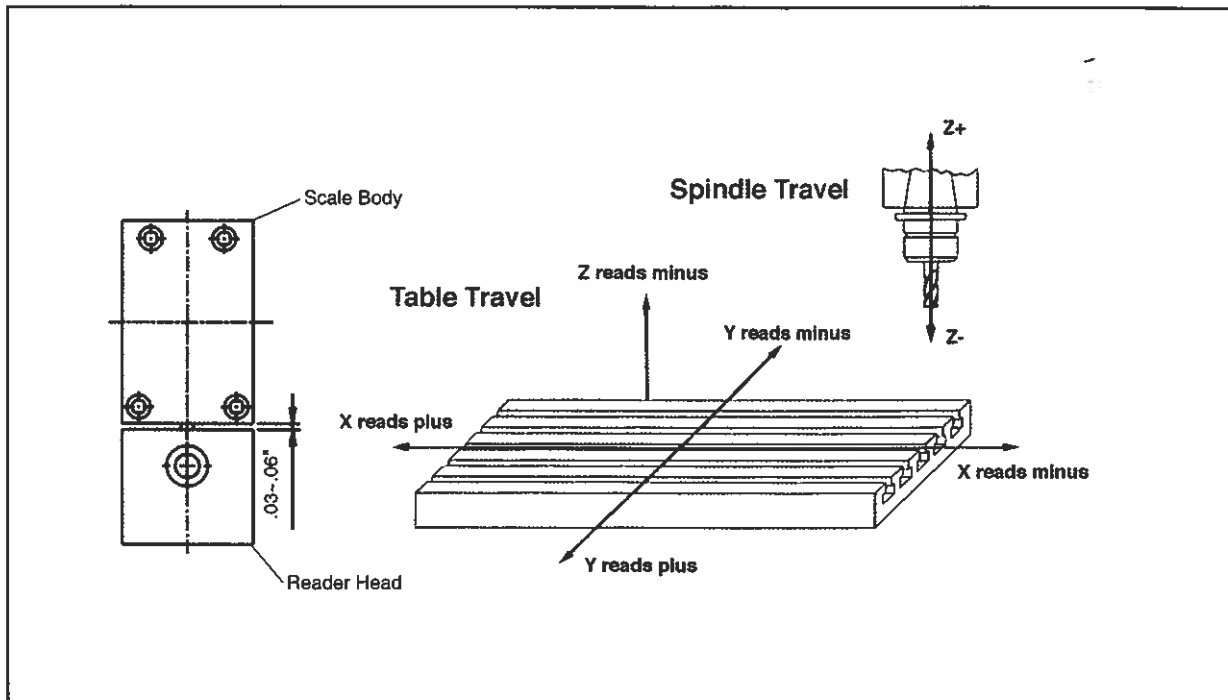

Figure 14. Milling machine table direction and reader head clearance.
3. Clearances between the reader head and scale body (**Figure 14**):